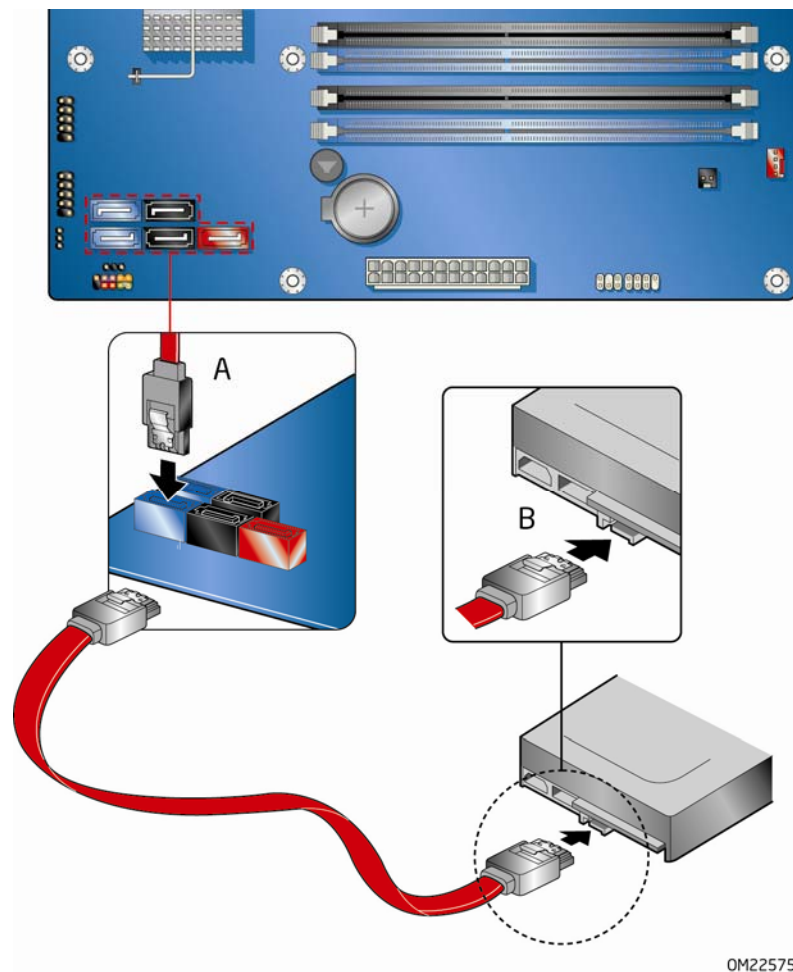

Figure 19. Connecting a SATA Drive
2. Attach one end of the SATA cable to one of the SATA connectors on the board (Figure 19, A) and attach the other end of the cable to the SATA drive data connector (Figure 19, B).